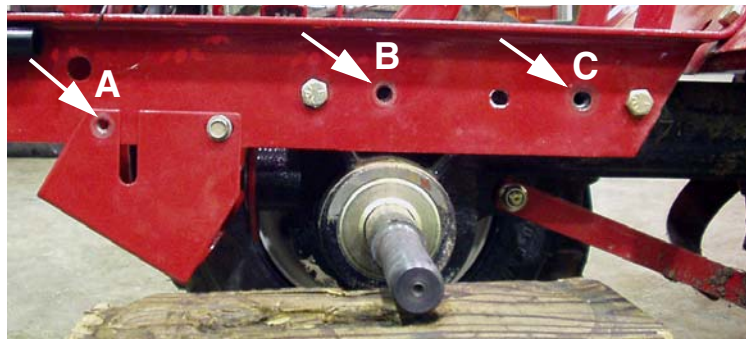

FIGURE 2
7. Remove and retain the existing hardware (if later the weights are removed) as shown from the frame rail. See Figure 2.